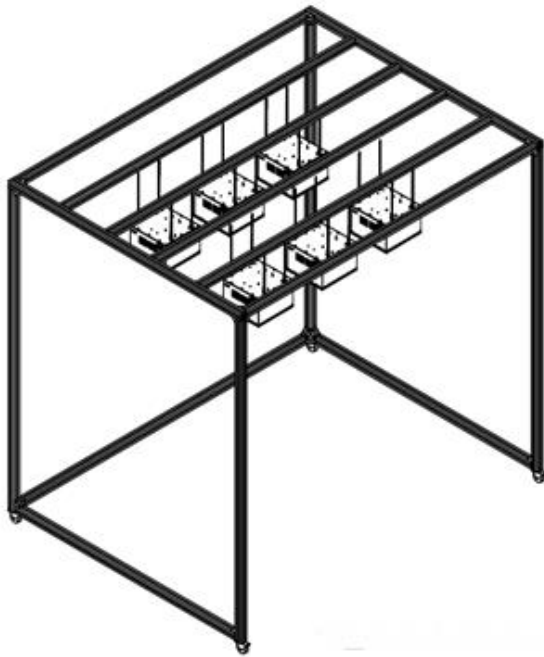

Fig. 2.3 Aluminium frame holder for LEDCubes
2. Customized aluminium framework. As shown in Fig 2.3, multi LEDCubes could be installed easily and firmly on the customized aluminium framework. The entire framework can be movable via its wheels.